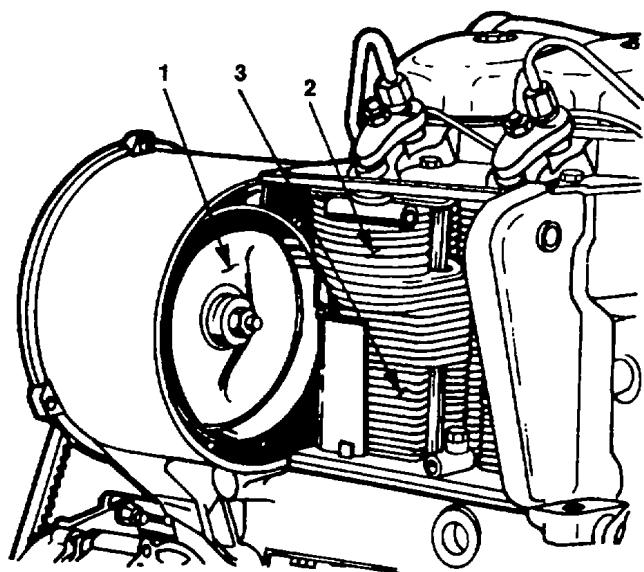

Figure 3-32. Cooling System Components
- a. Cleaning the cooling system is most important since accumulation of dust on the cooling air blower blading (1), on the cooling fins of the cylinder heads (2), cylinders (3, figure 3-32), or oil cooler (see paragraph 3-25) is liable to substantially reduce cooling efficiency, especially where the dust is retained by a film of fuel or oil.